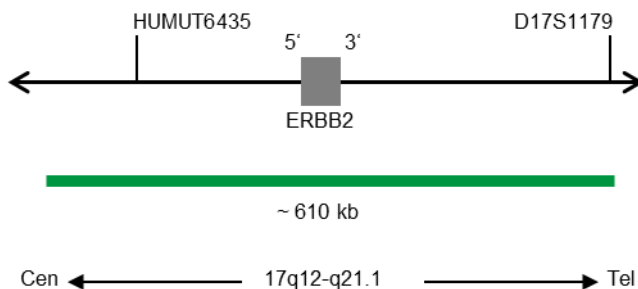

Fig. 1: SPEC ERBB2 probe map (not to scale)
- ZyGreen (excitation 503 nm/emission 528 nm) labeled polynucleotides (~10.0 ng/ μ l), which target sequences mapping in 17q12-q21.1* (chr17:37,572,531-38,181,308) harboring the ERBB2 gene region (see Fig. 1).